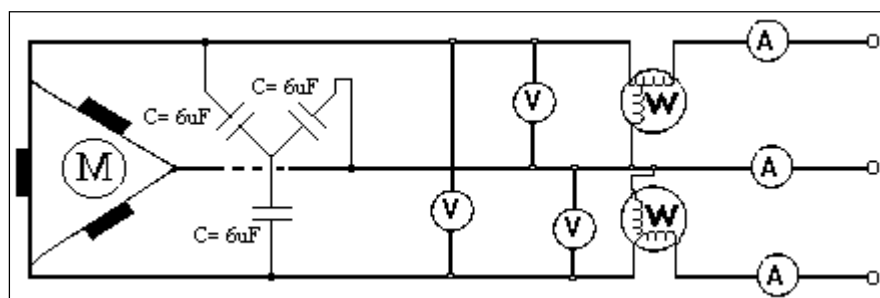

Figure 3.6: 3-phase induction motor Δ -connected with capacitors Y-connected.
4. Repeat step (2).
5. Now connect the capacitor bank ($6\mu\text{F}$ Y-connected) across the terminals of the motor as in figure 3.6.